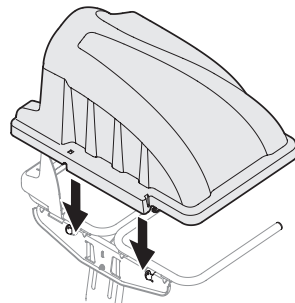

Figure 11
- Install the bagger cover onto the hanger assembly, as seen in Figure 11. The cover goes inside the two mounting tabs.